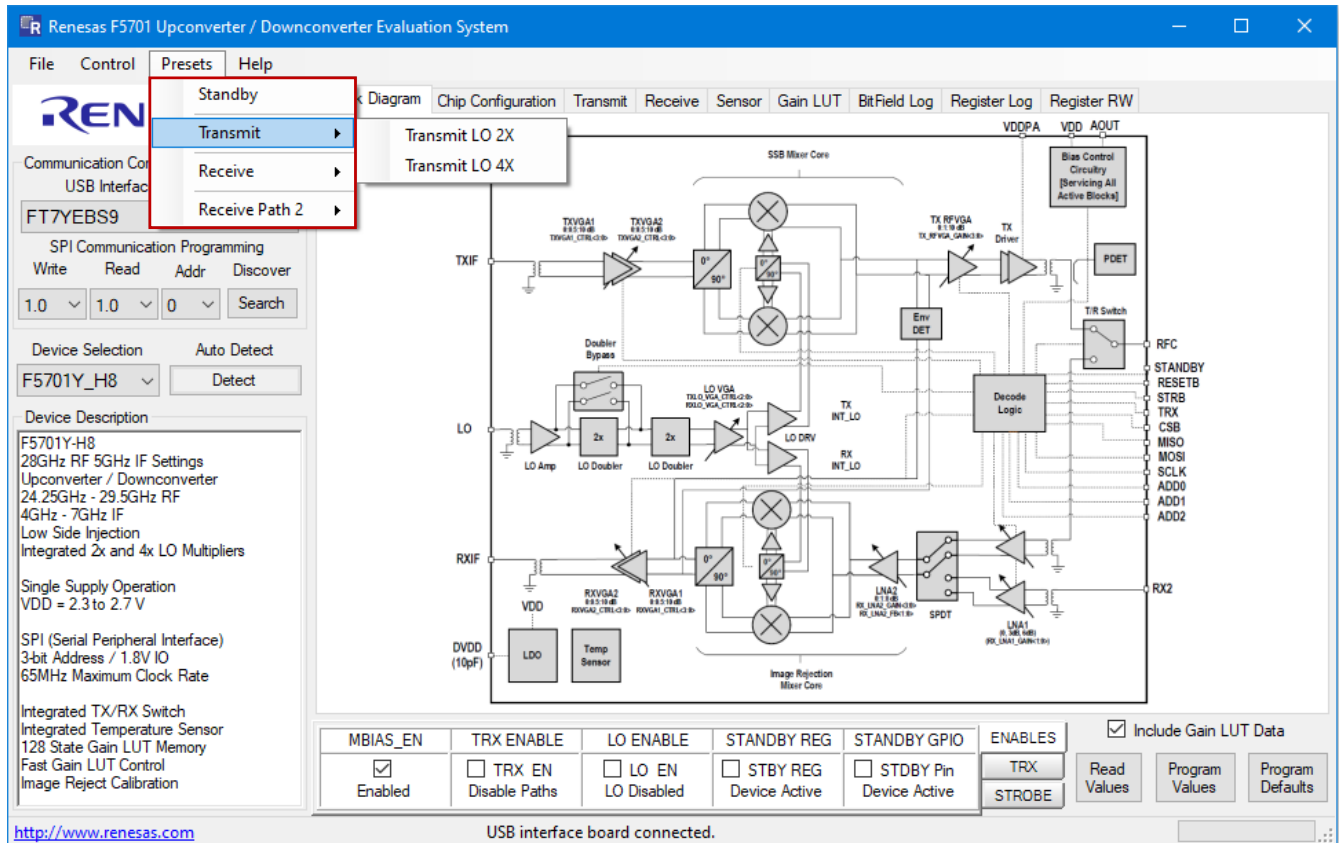

Figure 10. Presets Menu
- For convenience, the Presets menu (see Figure 10) is provided in this software for users to quickly program the device to one of the predefined states for the standby mode, transmit modes, receive modes, and receive-2 modes (RX2 path). For example, by selecting the **Transmit: Transmit LO2X** option, both TRX and LO signal paths will be enabled in the transmit mode with LO\_SEL set to 0 for LOx2.